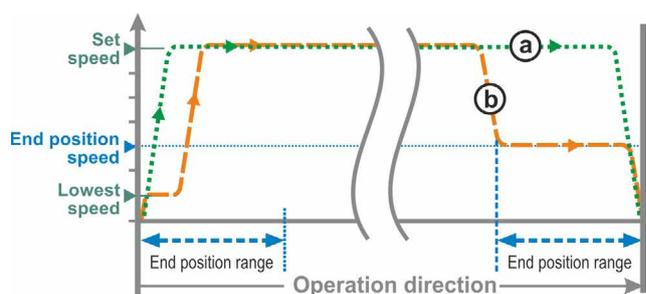

Fig. 3: End position speed 'Quick start/stop'
- For **travel-dependent** cut-off, the speed will be reduced shortly before reaching the end position so that the actuator is at standstill; refer to fig. 3, curve **a**.